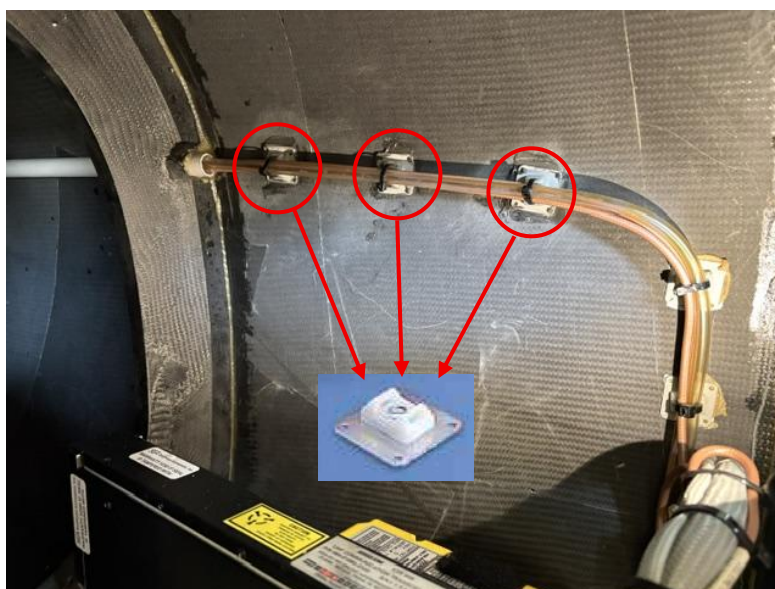

Figure 1
- 1.8.7 Bond three cable tie mounts (Item 1 of List 2.2) with Araldite 2014-2 (Item 2 of List 2.2) to the fuselage. For approximate positions, refer to Figure 1.